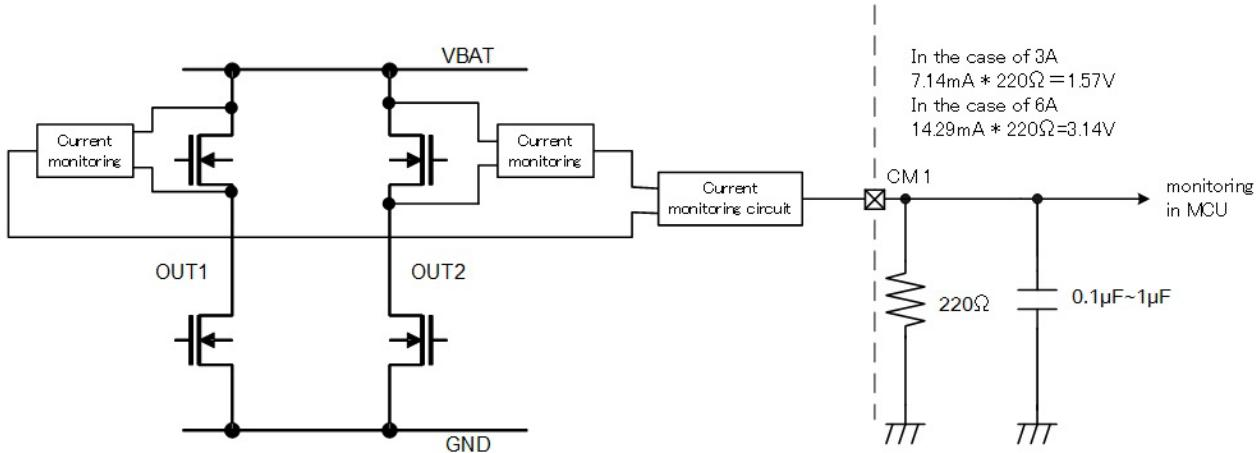

Figure 7.18 High-side current monitoring configuration
7.8. High-side current monitoring: CM pin (Figure 7.18, Figure 7.19,Figure 20,Figure21)